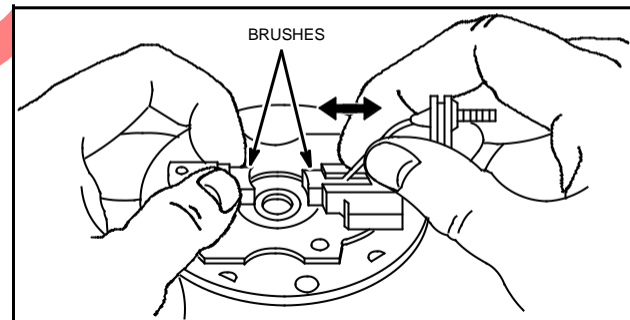

Fig. 657 – CHECKING BRUSHES
8. Before removing armature from end cap, check brushes for freedom of movement. If brushes are found to be sticking in their retainers, this must be corrected, or poor starter motor performance will result, Fig. 657.